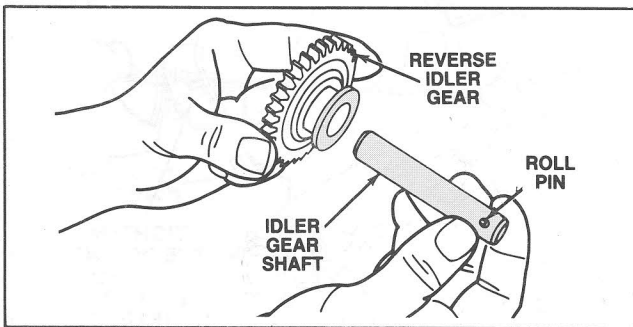

Figure 128 Reverse Idler Gear/Shaft Assembly
20. Install reverse gear on the idler shaft. (Figure 128).